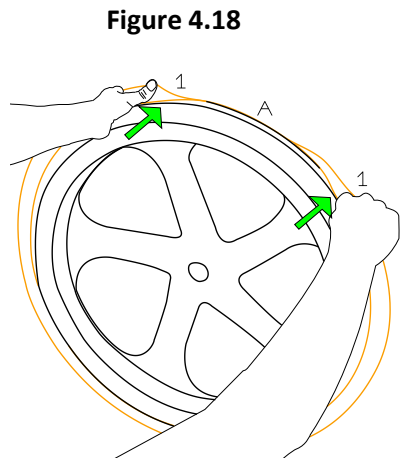

Figure 4.18
- Peel the tyre from the rim (Fig 4.18, 1).